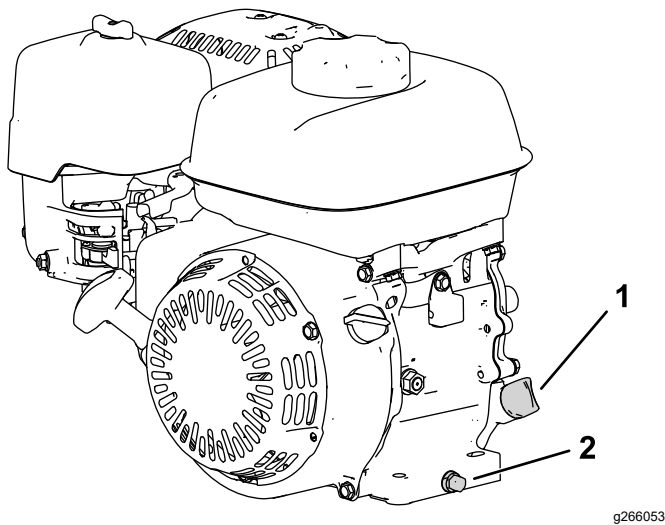

Figure 15
2. Position the machine so that the engine is level, and clean the area around the oil-fill tube (Figure 15).
3. Remove the drain plug (Figure 15).